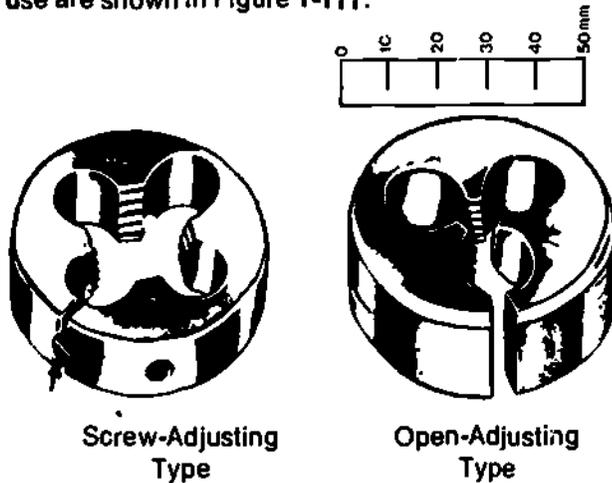

Figure 1-111. Bolt Dies
g) Bolt dies come in many different shapes and are of the solid or adjustable type. Two types in general use are shown in Figure 1-111.